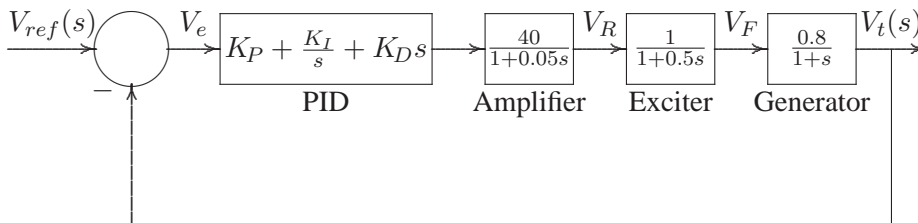

FIGURE 101
12.11. A PID controller is added in the forward path of the AVR system of Problem 12.9 as shown in Figure 101. Construct the *SIMULINK* model. Set the proportional gain K_P to 2.0, and adjust K_I and K_D until a step response with a minimum overshoot and a very small settling time is obtained (suggested values $K_I = 0.15$, and $K_D = 0.17$).
Construct a *SIMULINK* block diagram model for Figure 101, set $K_P = 1$, $K_I = 0.15$, and $K_D = 0.17$, simulate to obtain the response (**sim12p11.mdl**).